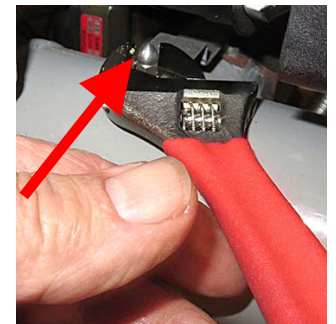

Figure 46
44. Remove the acorn nut attaching the drain clamp to the drain dump tube (see Figure 46).